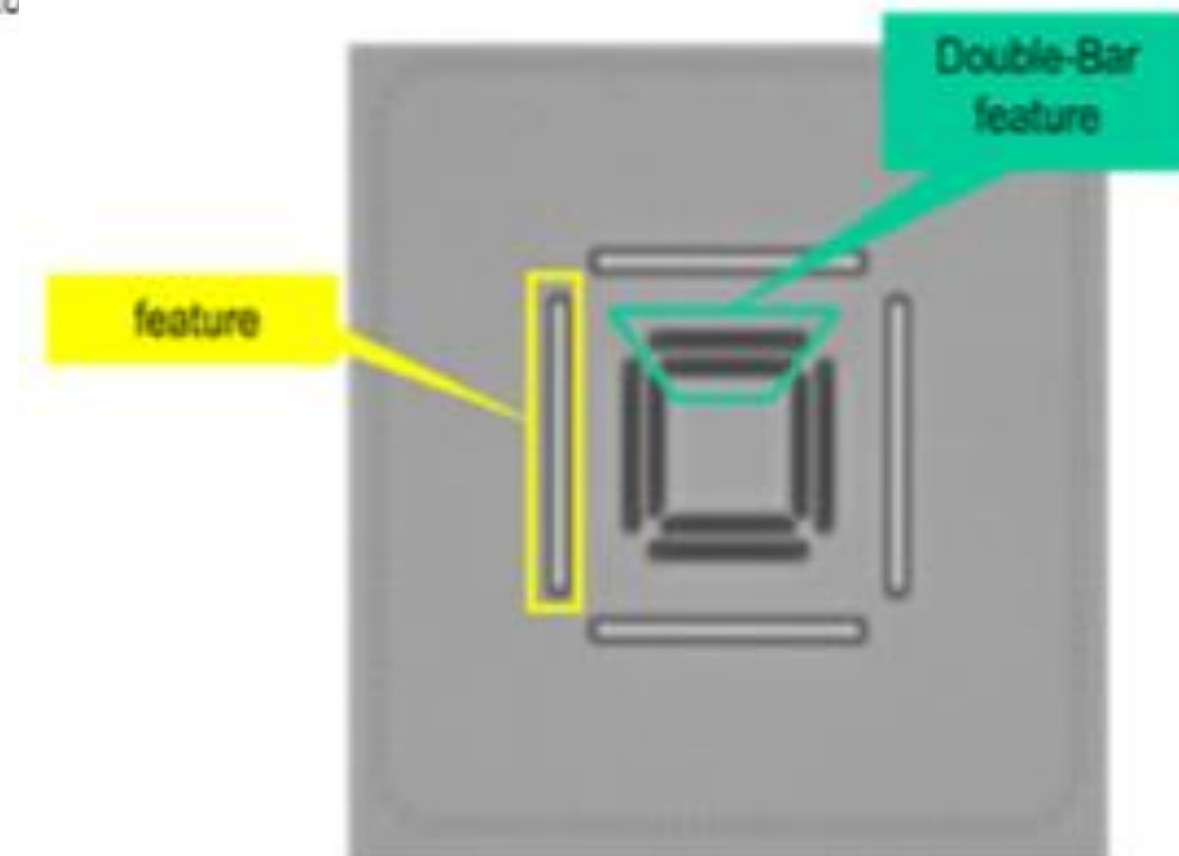

Figure 4
5.2.2 *feature* — area within a single continuous boundary that have any physical property that is distinct from the background area outside the feature. (See Figure 4.)
5.2.5 *pattern* — a group of features for overlay metrology. (See Figure 4.)